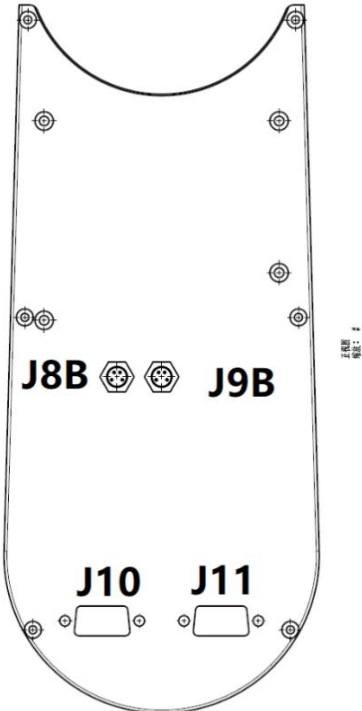

Figure 7
4. THE B I/O INTERFACE PANEL GENERAL SCHEMATIC DIAGRAM, as shown in Figure 7